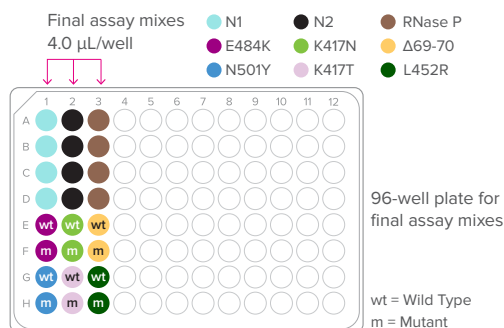

Figure 3. Final assay plate (per-well transfer volume)
NOTE If you are preparing assay mixes for 1 IFC, you can combine 1 µL of 4X Assay Loading Reagent with 3 µL of each assay directly in a new 96-well plate in the order shown in Figure 3 on page 4 and skip to Step 4 of this section.
d Transfer the final assay mixes to a new 96-well plate in the order shown in Figure 3.
- 3 In a DNA/template-free hood, use an 8-channel pipette to transfer 4.0 μL of each final assay mix into the respective wells in a new 96-well plate as shown in Figure 3.